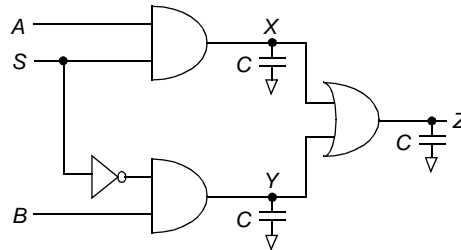

Figure 6.18 Two-input multiplexer
- 27. [C, None, 4.4] Figure 6.18 shows a two-input multiplexer. For this problem, assume independent, identically-distributed uniform white noise inputs.
- b. Find the exact signal ( $P_1$ ) and transition ( $P_{0 \rightarrow 1}$ ) formulas for nodes X, Y, and Z for: (1) a static, fully complementary CMOS implementation, and (2) a dynamic CMOS implementation.
28. [M, None, 4.4] Compute the switching power consumed by the multiplexer of Figure 6.18, assuming that all significant capacitances have been lumped into the three capacitors shown in the figure, where  $C = 0.3$  pF. Assume that  $V_{DD} = 2.5$  V and independent, identically-distributed uniform white noise inputs, with events occurring at a frequency of 100 MHz. Perform this calculation for the following: